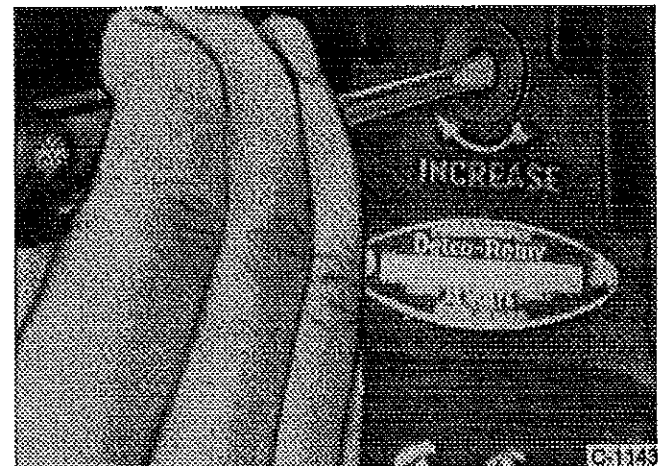

Fig. 33 - Adjusting regulator voltage setting
4. If not, the desired setting can be obtained by removing the plug from the voltage regulator cover and turning lightly the adjusting screw inside the regulator; clockwise to increase or counterclockwise to decrease the voltage setting. See figure 33 for details.
Resistor R2 = Turn voltage adjustment screw (identified in figure 33) with ohmmeter connecting each way. Reading should change as slotted screw is turned. If not, replace R2.